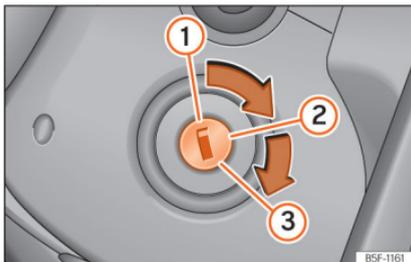

Fig. 157 Ignition key positions.
Key positions »» Fig. 157
- Turn the key to position »» **Fig. 157** ②. Pre-heating occurs in diesel vehicles .
- Keep turning the key to position »» **Fig. 157** ③ without stepping on the accelerator.
- Once the engine starts, release the key. When it is released, the key returns to position ②.
- *Vehicles with ignition locks:* Turn the key to position »» **Fig. 157** .